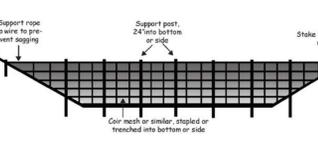

Figure 6.65b: Cross-section of a porous baffle in a sediment basin. Note that there is no weir because the water flows through the baffle material.
The installation should be similar to a sediment fence (Figure 6.65b). Materials such as 700 g/m² coir erosion blanket (Figure 6.65d), coir mesh, or tree protection fence folded over to reduce pore size have been used successfully. Other similar materials could work as well. A support wire or rope across the top will help prevent excessive sagging if the material is attached to it with appropriate ties. Another option is to use a sawhorse type of support with the legs stabilized with rebar inserted into the basin floor. These structures work well and can be prefabricated off site and quickly installed. Another baffle system involves placing silt fence fabric in front of a wire fence (hog wire) backing, and slitting the fabric in alternating squares (Figure 6.65b). This permits flow through the silt fence similar to more porous materials.
- Baffles need to be installed correctly in order fully provide their benefits. Refer to Figure 6.65b and the following key points: